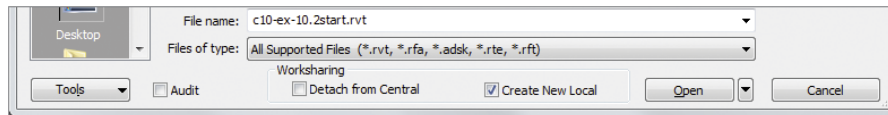

FIGURE 10.6 Creating the local file
3. As shown in Figure 10.6, ensure that the Create New Local option is checked.
Selecting this option will not open the Central Model directly but instead will create a local file (Figure 10.6).